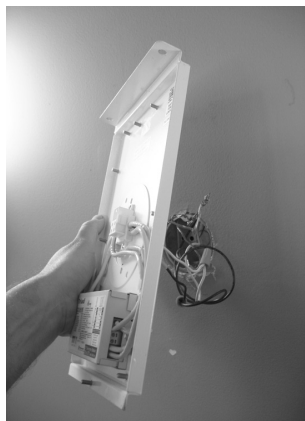

Figure 1
Step 2 Remove fixture backplate from the decorative cage assembly and make wire connections. Connect black fixture wire to black supply wire at J-box (load). Connect the white fixture wire to the white supply wire at J-box (neutral). Connect copper fixture wire to green screw or ground wire at J-box. (See Figure 1)